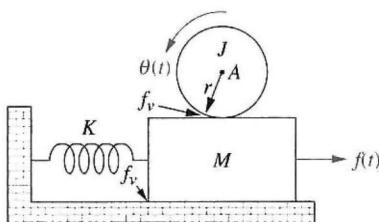

FIGURE P2.25
39. In the system shown in Figure P2.25, the inertia, J , of radius, r , is constrained to move only about the stationary axis A . A viscous damping force of translational value f_v exists between the bodies J and M . If an external force, $f(t)$, is applied to the mass, find the transfer function, $G(s) = \theta(s)/F(s)$. [Sections: 2.5; 2.6]